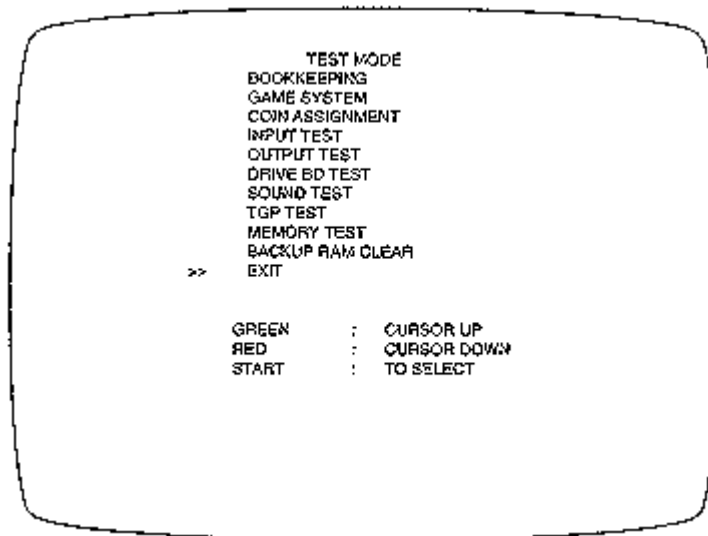

FIG. 8.2 TEST MENU
- Press the TEST SWITCH to cause the following Test Menu to be displayed on the monitor. (FIG. 8.2)
Press the TEST SW or START BUTTON to cause the test mode screen below to appear. To return back to the menu mode, bring the arrow to EXIT and press the TEST SW or START BUTTON (FIG. 8.2)